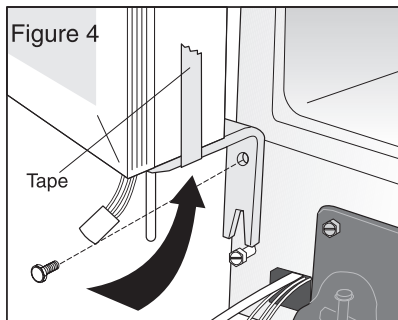

Figure 4
6. Place a strip of tape along door bottom, over lower hinge and up the side of the door. This will hold hinge in place when door is removed (Figure 4).
7. **Loosen, but DO NOT REMOVE, bottom lower hinge bolt.** Remove top lower hinge bolt (Figure 4).
9. Carefully lift door up and off loosened lower hinge bolt (Figure 4).